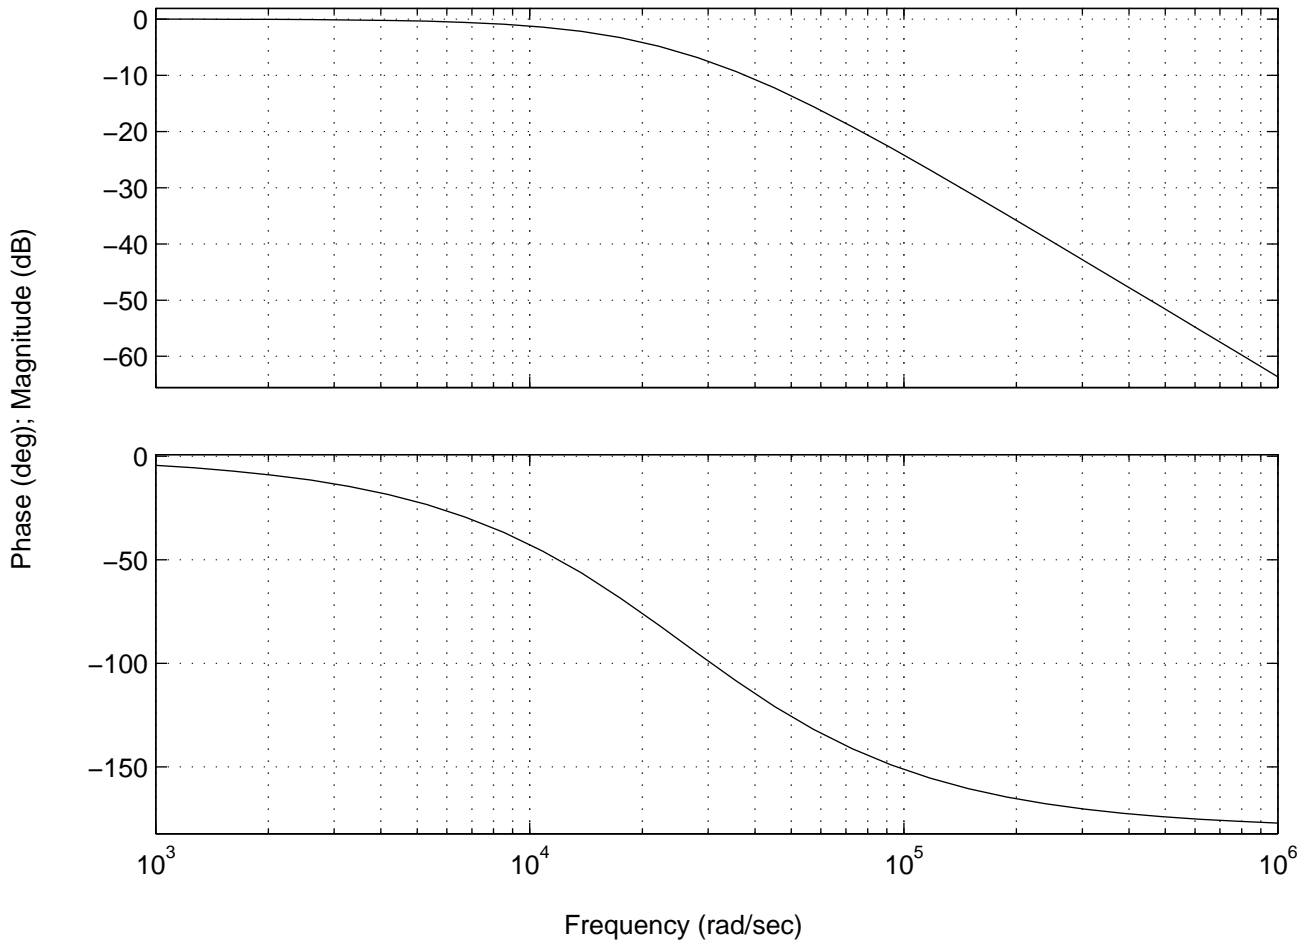

Figure 7: frequency response of the low-pass filter.
- (E) Given that the low-pass filter is to be designed as described in Part (C), use the results of Part (D) to choose values for  $C_1$ ,  $C_2$  and  $R$  so that  $\omega_{\text{LPF}} \approx 2\pi \times 4000$  rad/s. Since the results of Part (D) under specify  $C_1$ ,  $C_2$  and  $R$ , there is no single correct choice. Therefore, choose  $C_1$ ,  $C_2$  and  $R$  so that they are easily implemented with the components in the 6.002 lab kit.
- (F) Given the choice of  $C_1$ ,  $C_2$  and  $R$  from Part (E), determine  $\omega_{\text{LPF}}$ , and plot both the log-magnitude and phase of  $H_{\text{LPF}}(\omega)$  against log-frequency for  $2\pi \times 10^1 \text{ rad/s} \leq \omega \leq 2\pi \times 10^5 \text{ rad/s}$ .
**ANSWER:** From above we see that  $\omega_{\text{LPF}} = 2.56 \times 10^4 = 2\pi \times 4081 \text{ rad/s}$ . Figure 7 shows the frequency response.